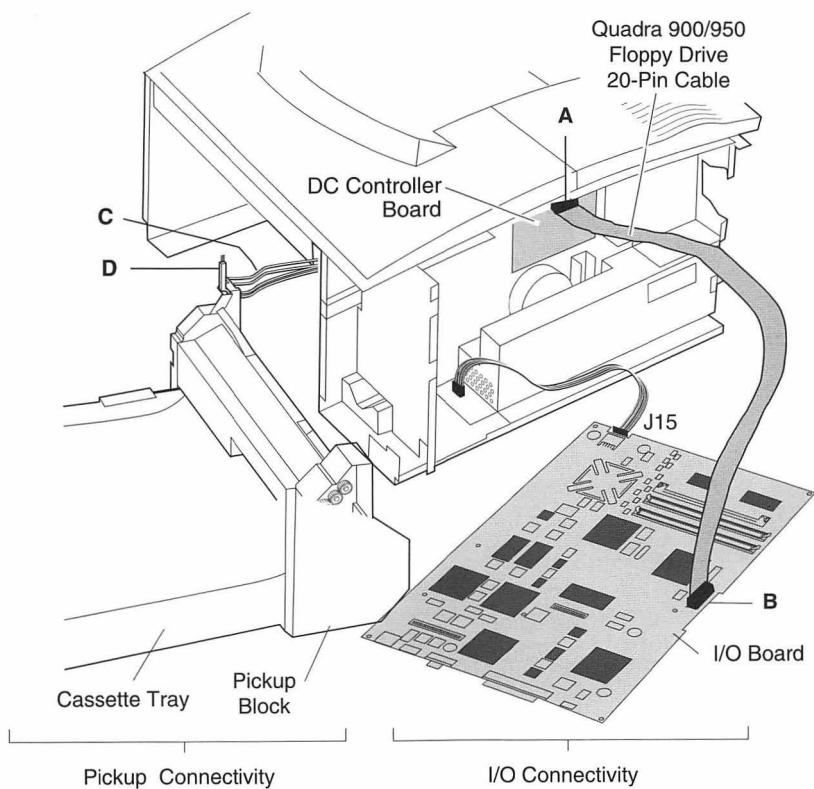

Figure 21. Maintaining I/O and Pickup Connectivity
If you want to troubleshoot the printer while maintaining connectivity to a host computer, you must temporarily reposition the printer's I/O controller board. In this reconfigured state, you will be able to print from a paper source other than the standard cassette, observe the behavior of LEDs during startup, or run the printer diagnostic, while still having the engine open for troubleshooting. You must remove the printer interface cable from the I/O controller board and temporarily substitute a Quadra 900/950 floppy drive 20-pin cable between connectors A and B, as shown in Figure 21. This cable has the extra length needed for the I/O shield to rest flat on the work surface. Do not disconnect power supply cable J15, the I/O-CPU cabling, or the AC power cable.
3. Reconnect cables J601 and J603 at the leading edge of the pickup controller board (C in Figure 21).
5. Press down the top cover interlock actuator and force the interlock switch closed by wedging in the hooked end of the green cleaning brush (D in Figure 21).